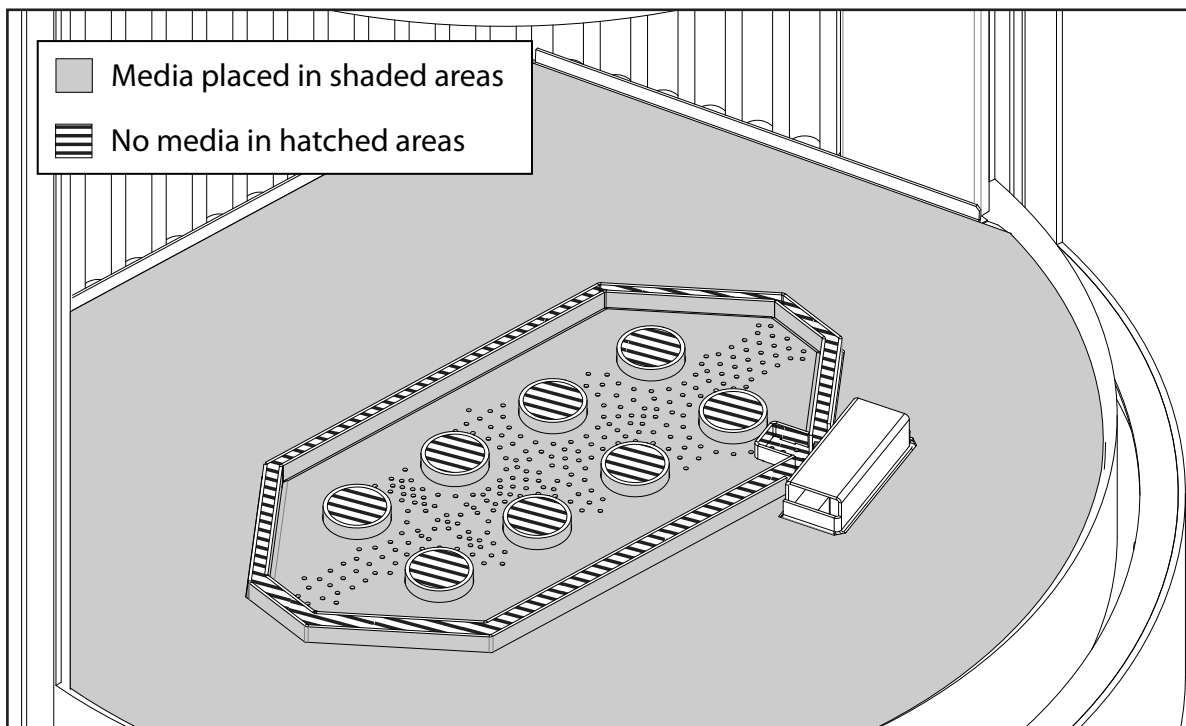

Figure 101: Media Installation Area
***Note:** Ensure that the areas highlighted in Figure 101 are not covered by media. These areas must be clear to allow the proper flow of air. Failure to do so will cause the fireplace to not burn properly.